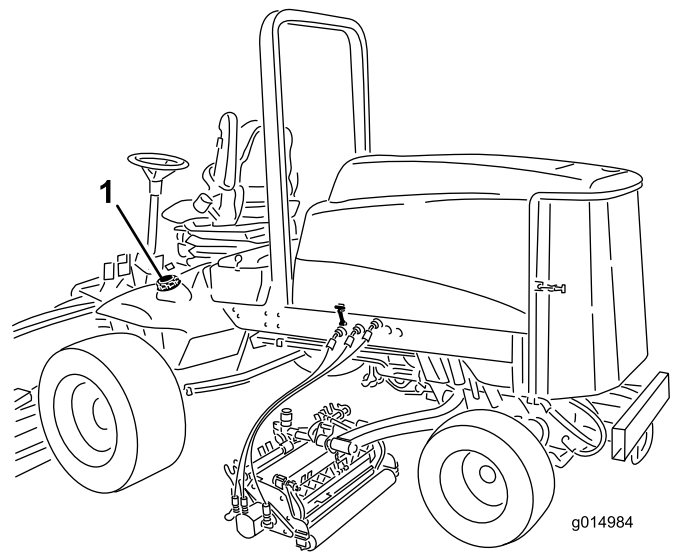

Figure 35
3. Remove the cap from the fuel tank (Figure 35).